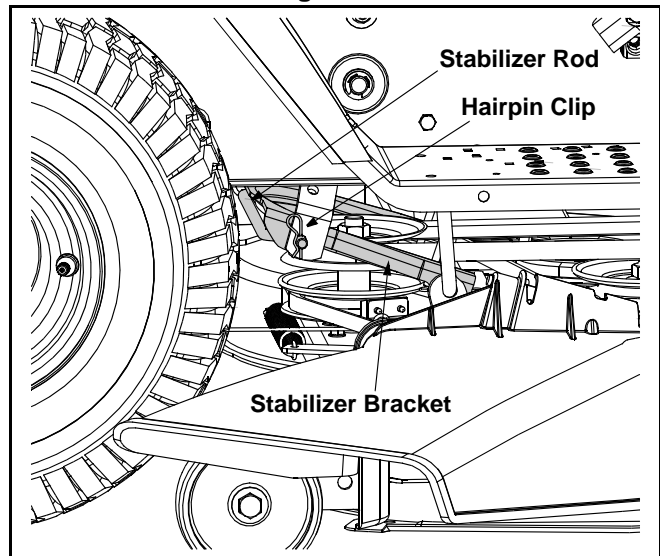

Figure 31
**NOTE:** On 46-inch decks, you must also remove both the deck stabilizer bracket and the stabilizer rod. To do so, remove the hairpin clip which secures the stabilizer rod to the stabilizer bracket. See Figure 31.